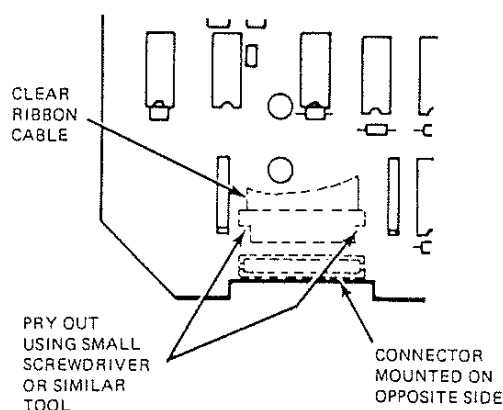

Figure 20.
Disconnect clear ribbon cable from display PWA as shown in Figure 20.
6. Disconnect remaining ribbon cable connected to power supply PWA (Figure 20).